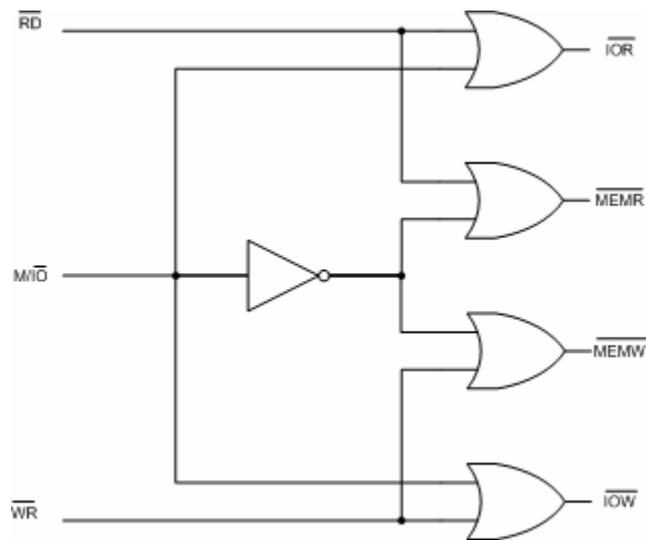

Figure 3.1: Generating the four memory and I/O control bus signals from the 8086's RD, WR and I/O signals.
3. Implement the decoder shown in Figure 3.1 which takes as input \overline{RD} , \overline{WR} and M/\overline{IO} , and produces *memory read* (\overline{MEMR}), *memory write* (\overline{MEMW}), *I/O read* (\overline{IOR}) and *I/O write* (\overline{IOW}) signals.